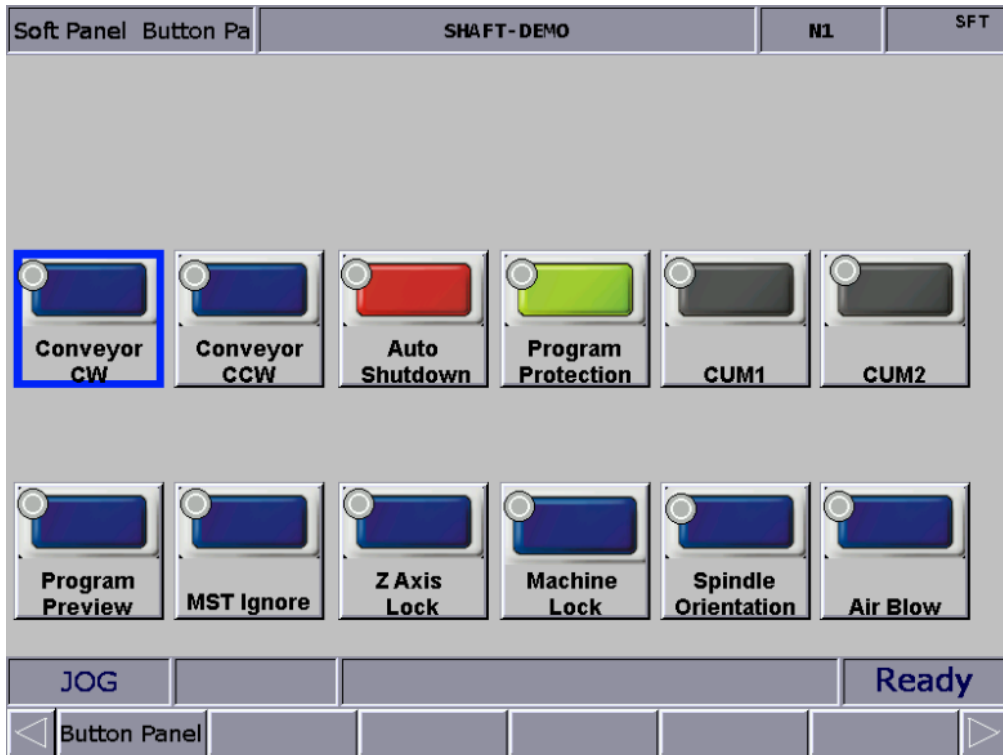

Figure 13.1.3
- After compiling the screens and creating the screen data files, you can import the files to the controller using the USB disk or through the Internet, as shown in Figure 13.1.3.